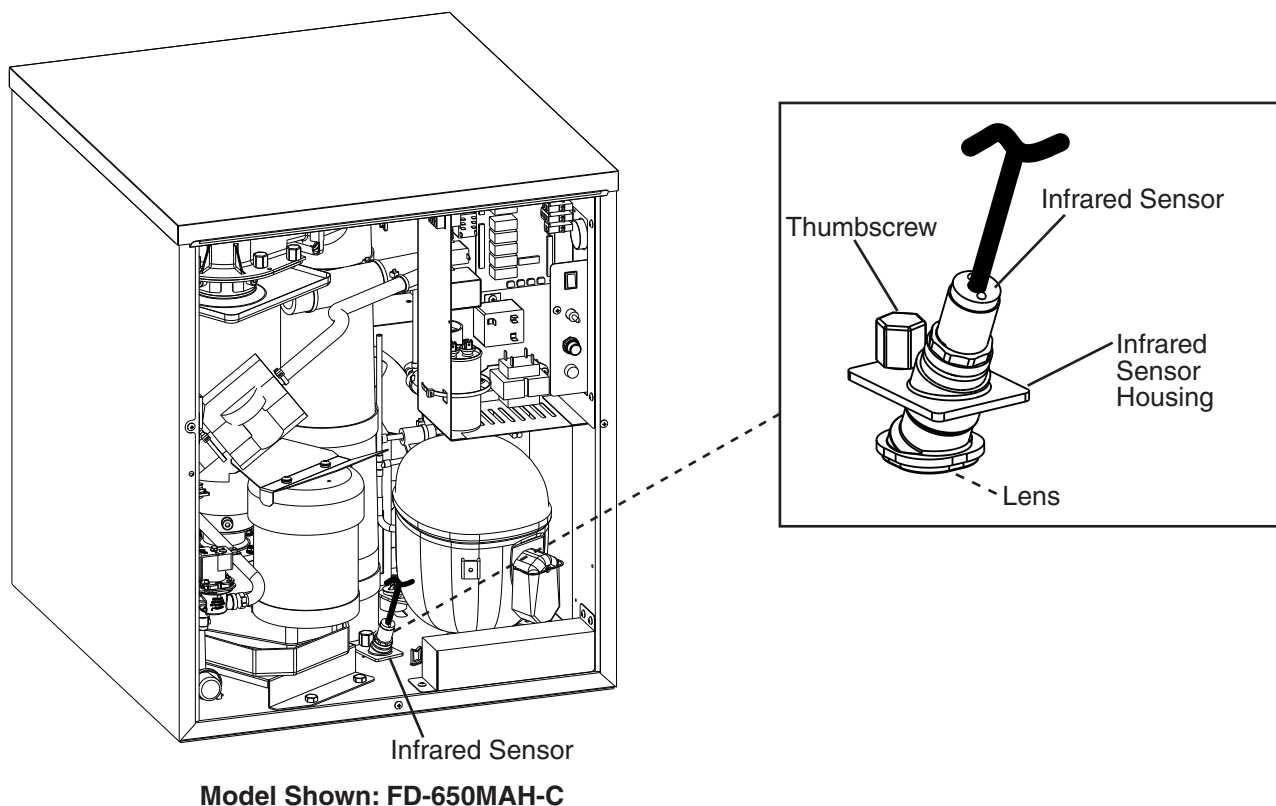

Fig. 16
- 7) "GM" LED and "COMP" LED are on. Use an object to cover the infrared sensor lens at the bottom of the icemaker. If the bottom of the icemaker is not accessible in your application, remove the thumbscrew securing the infrared sensor housing, remove the housing from the base, then cover the infrared sensor lens. See Fig. 16. The yellow LED on the infrared sensor turns on. The yellow LED flashes when ice is at the outer limit of its range and turns steady as ice nears. After the yellow LED turns on (flashing or steady), the infrared sensor shutdown delay timer starts (S1 dip switch 1, 2, 3; factory default is 100 sec.). "COMP" LED turns off after the shutdown delay timer terminates. 5 minutes later, "GM" LED turns off.